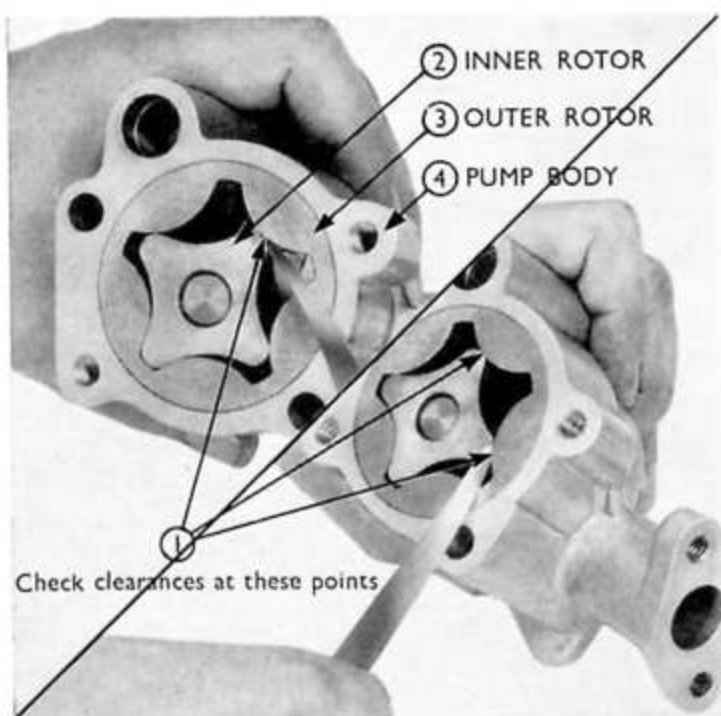

Fig. 25
4. Check the clearance between the lobes of the inner and outer rotors. This should be checked in the positions as shown in Fig. 25, and must not exceed 0.152 mm. (0.006 in.). Check the clearance between the outer rotor and the housing, this should not exceed 0.254 mm. (0.010 in.) pre-October 1968, 0.381 mm. (0.015 in.) after October 1968.